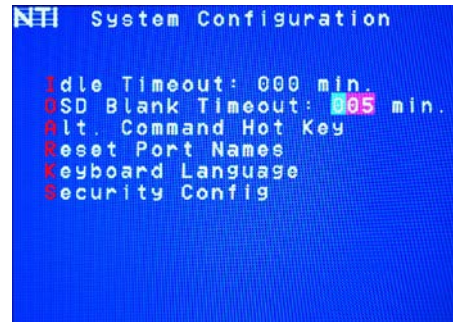

Figure 38- Change the value of OSD Blank Timeout
1. press <O> from the System Configuration menu to display the edit field around the value (see Figure 38)